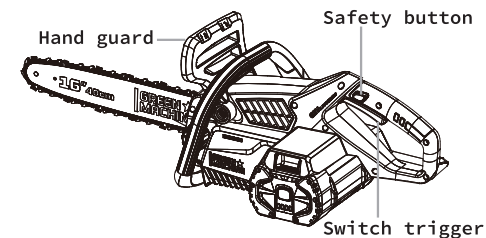

Fig. 4
2. Hold the machine with one hand on each handle. Press the safety button and the switch trigger. Release the safety button once the machine turns on. You must continue to squeeze the switch trigger for continued operation (Fig. 4).
- ⚠ WARNING!** If any emergency happens during operation, immediately push the hand guard forward. (Fig.4)